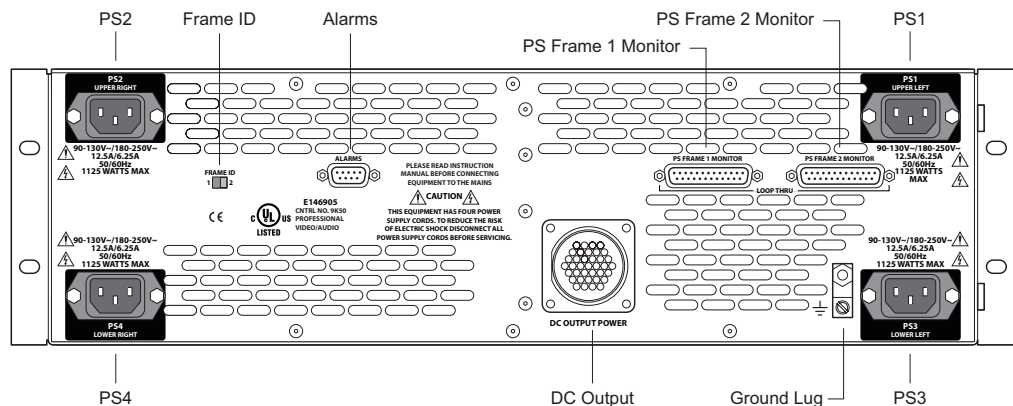

Figure 2-37. NV8000 Power Supply (Rear View)
- Facing the rear of one of the **NV8000** frames (Power Supply 1), connect one end of a power cable (WC0096) to 'DC Output', as shown in Figure 2-37.
- 8 Connect power cords from AC power sources (90–230 VAC, 50–60 Hz) into power supply connections PS 1 through PS 4. (See Figure 2-37 on page 91.) Connect one power cord for each PS8100 power supply module you will install.